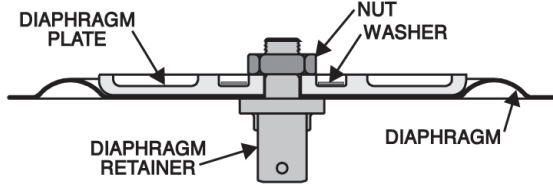

Figure 26
- Diaphragm Assembly: Assemble the Pilot Diaphragm with the convex side toward Diaphragm Plate and Main Spring (refer to Figure 26). Tighten nut on the Diaphragm Retainer to approximately 5 to 6 ft-lbs torque.